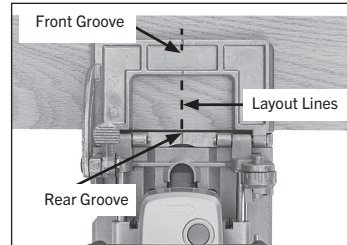

Fig 17. Biscuit joiner aligned with workpiece.
1. Place fence on workpiece so front groove and rear groove line up with layout line, as shown in Figure 17. Make sure faceplate contacts edge of workpiece.